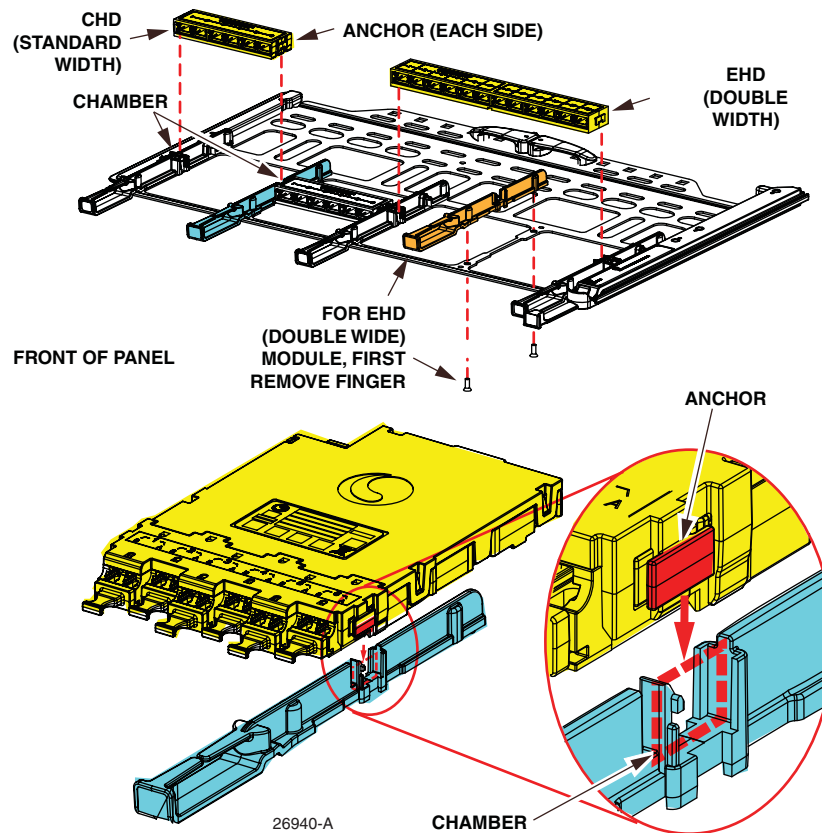

Figure 13. Installing Adapter Pack or Module in CHD Panel
3. Hold the adapter pack or module above the blade, align it with the blade position, and press anchor down into chamber to seat anchor securely into chamber as shown in Figure 13.
Note: To install EHD (double-wide) components, the finger from the tray must be removed - this is done by removing 2 screws from the bottom side of finger (in orange in Figure 13).